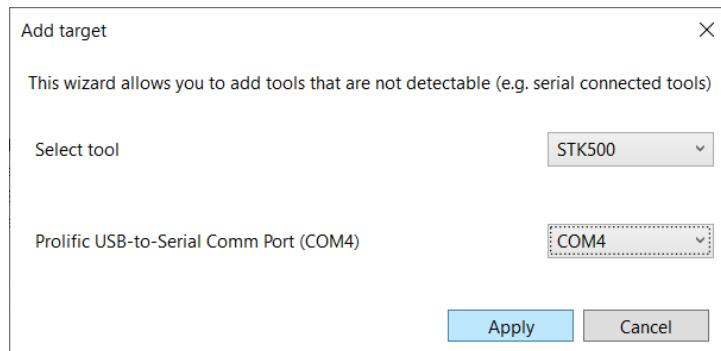
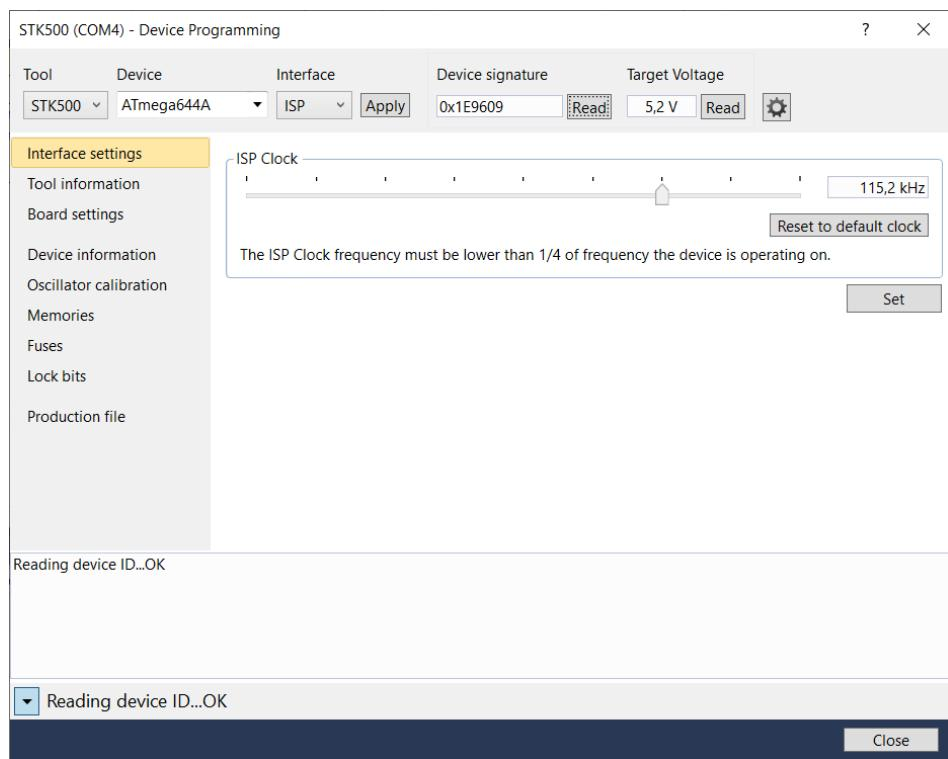

Figure 44: Adding the STK500 as a Target in Microchip Studio
Figure 45: Settings for STK500 in Microchip Studio
Start Microchip Studio and open the Blink project from Section 3.1.2. In the “Tools” menu, click “Add Target”. Select STK500 and specify the correct COM port, see Figure 44. Open the “Device Programming” dialog from the “Tools” menu. Select the STK500 entry in the Tool dropdown and make sure the ATmega644(A) is selected under “Device” and ISP under “Interface”. Click “Apply”, then have it read the device signature to check whether communication can be established. See Figure 45